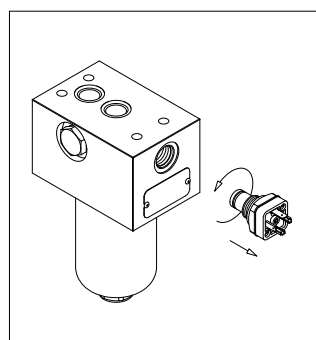

fig. 10
- (Fig. 10) Unscrew the indicator body